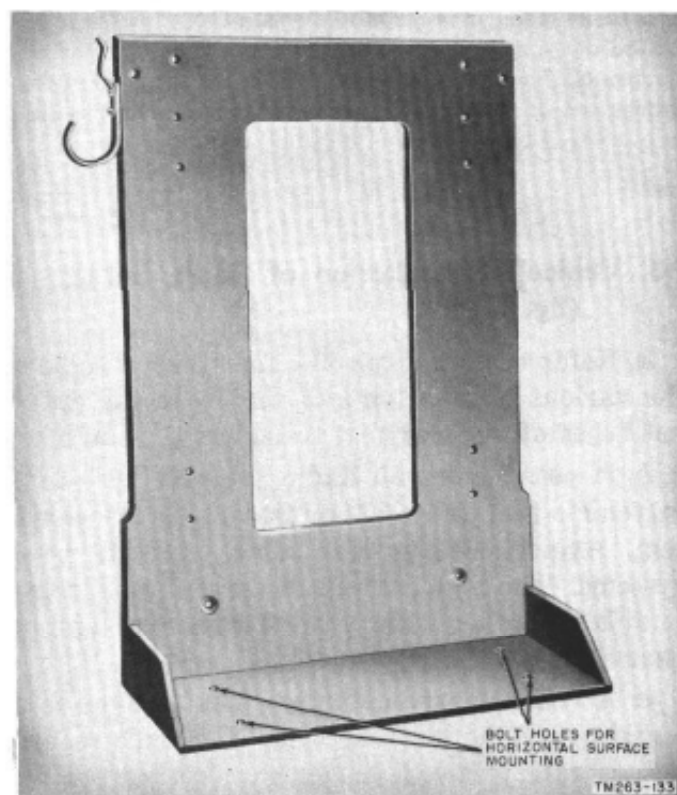
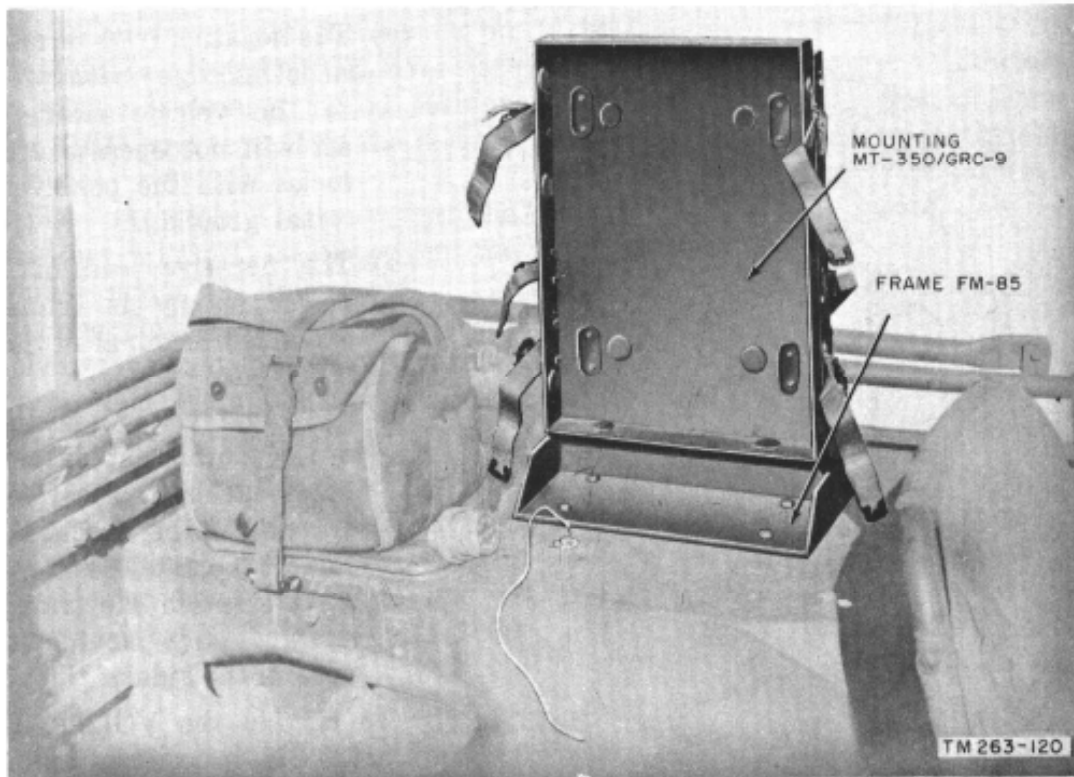

Figure 35. Frame FM-85.
Figure 36. Mounting MT-350/GRC-9 and Frame FM-85, installed in vehicle.
b. Use Mounting MT-350/GRC-9 (fig. 4) to support and shock mount the receiver-transmitter. Mounting MT-350/GRC-9 is fastened directly to a vertical surface in the vehicle, with the hardware provided. If a horizontal surface is selected, install Mounting MT-350/GRC-9 on Frame FM-85, part of vehicle installation kit (fig. 35). Figure 36 shows the mounting and frame installed in a vehicle.
f. Connect a ground lead (as short as possible) from the GND. post on the receiver panel to a nearby grounded metal portion of the vehicle (fig. 36).